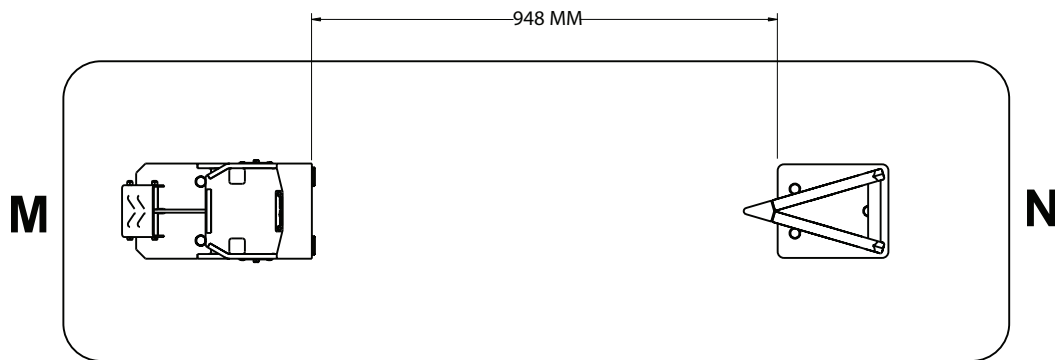

Figure 6 – Fastener spacing
5. Make sure that the fastener spacing matches Figure 6.
10. Make sure that the fastener spacing matches Figure 6.
11. Make sure that the fastener spacing matches Figure 6.